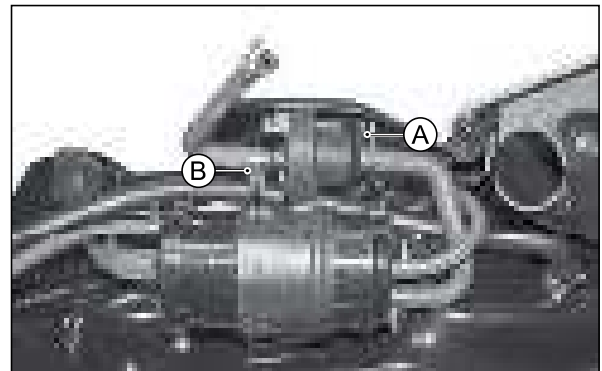

Fig. 4.37
- Disconnect the hose (A and B) from the purge valve. (Fig. 4.37)